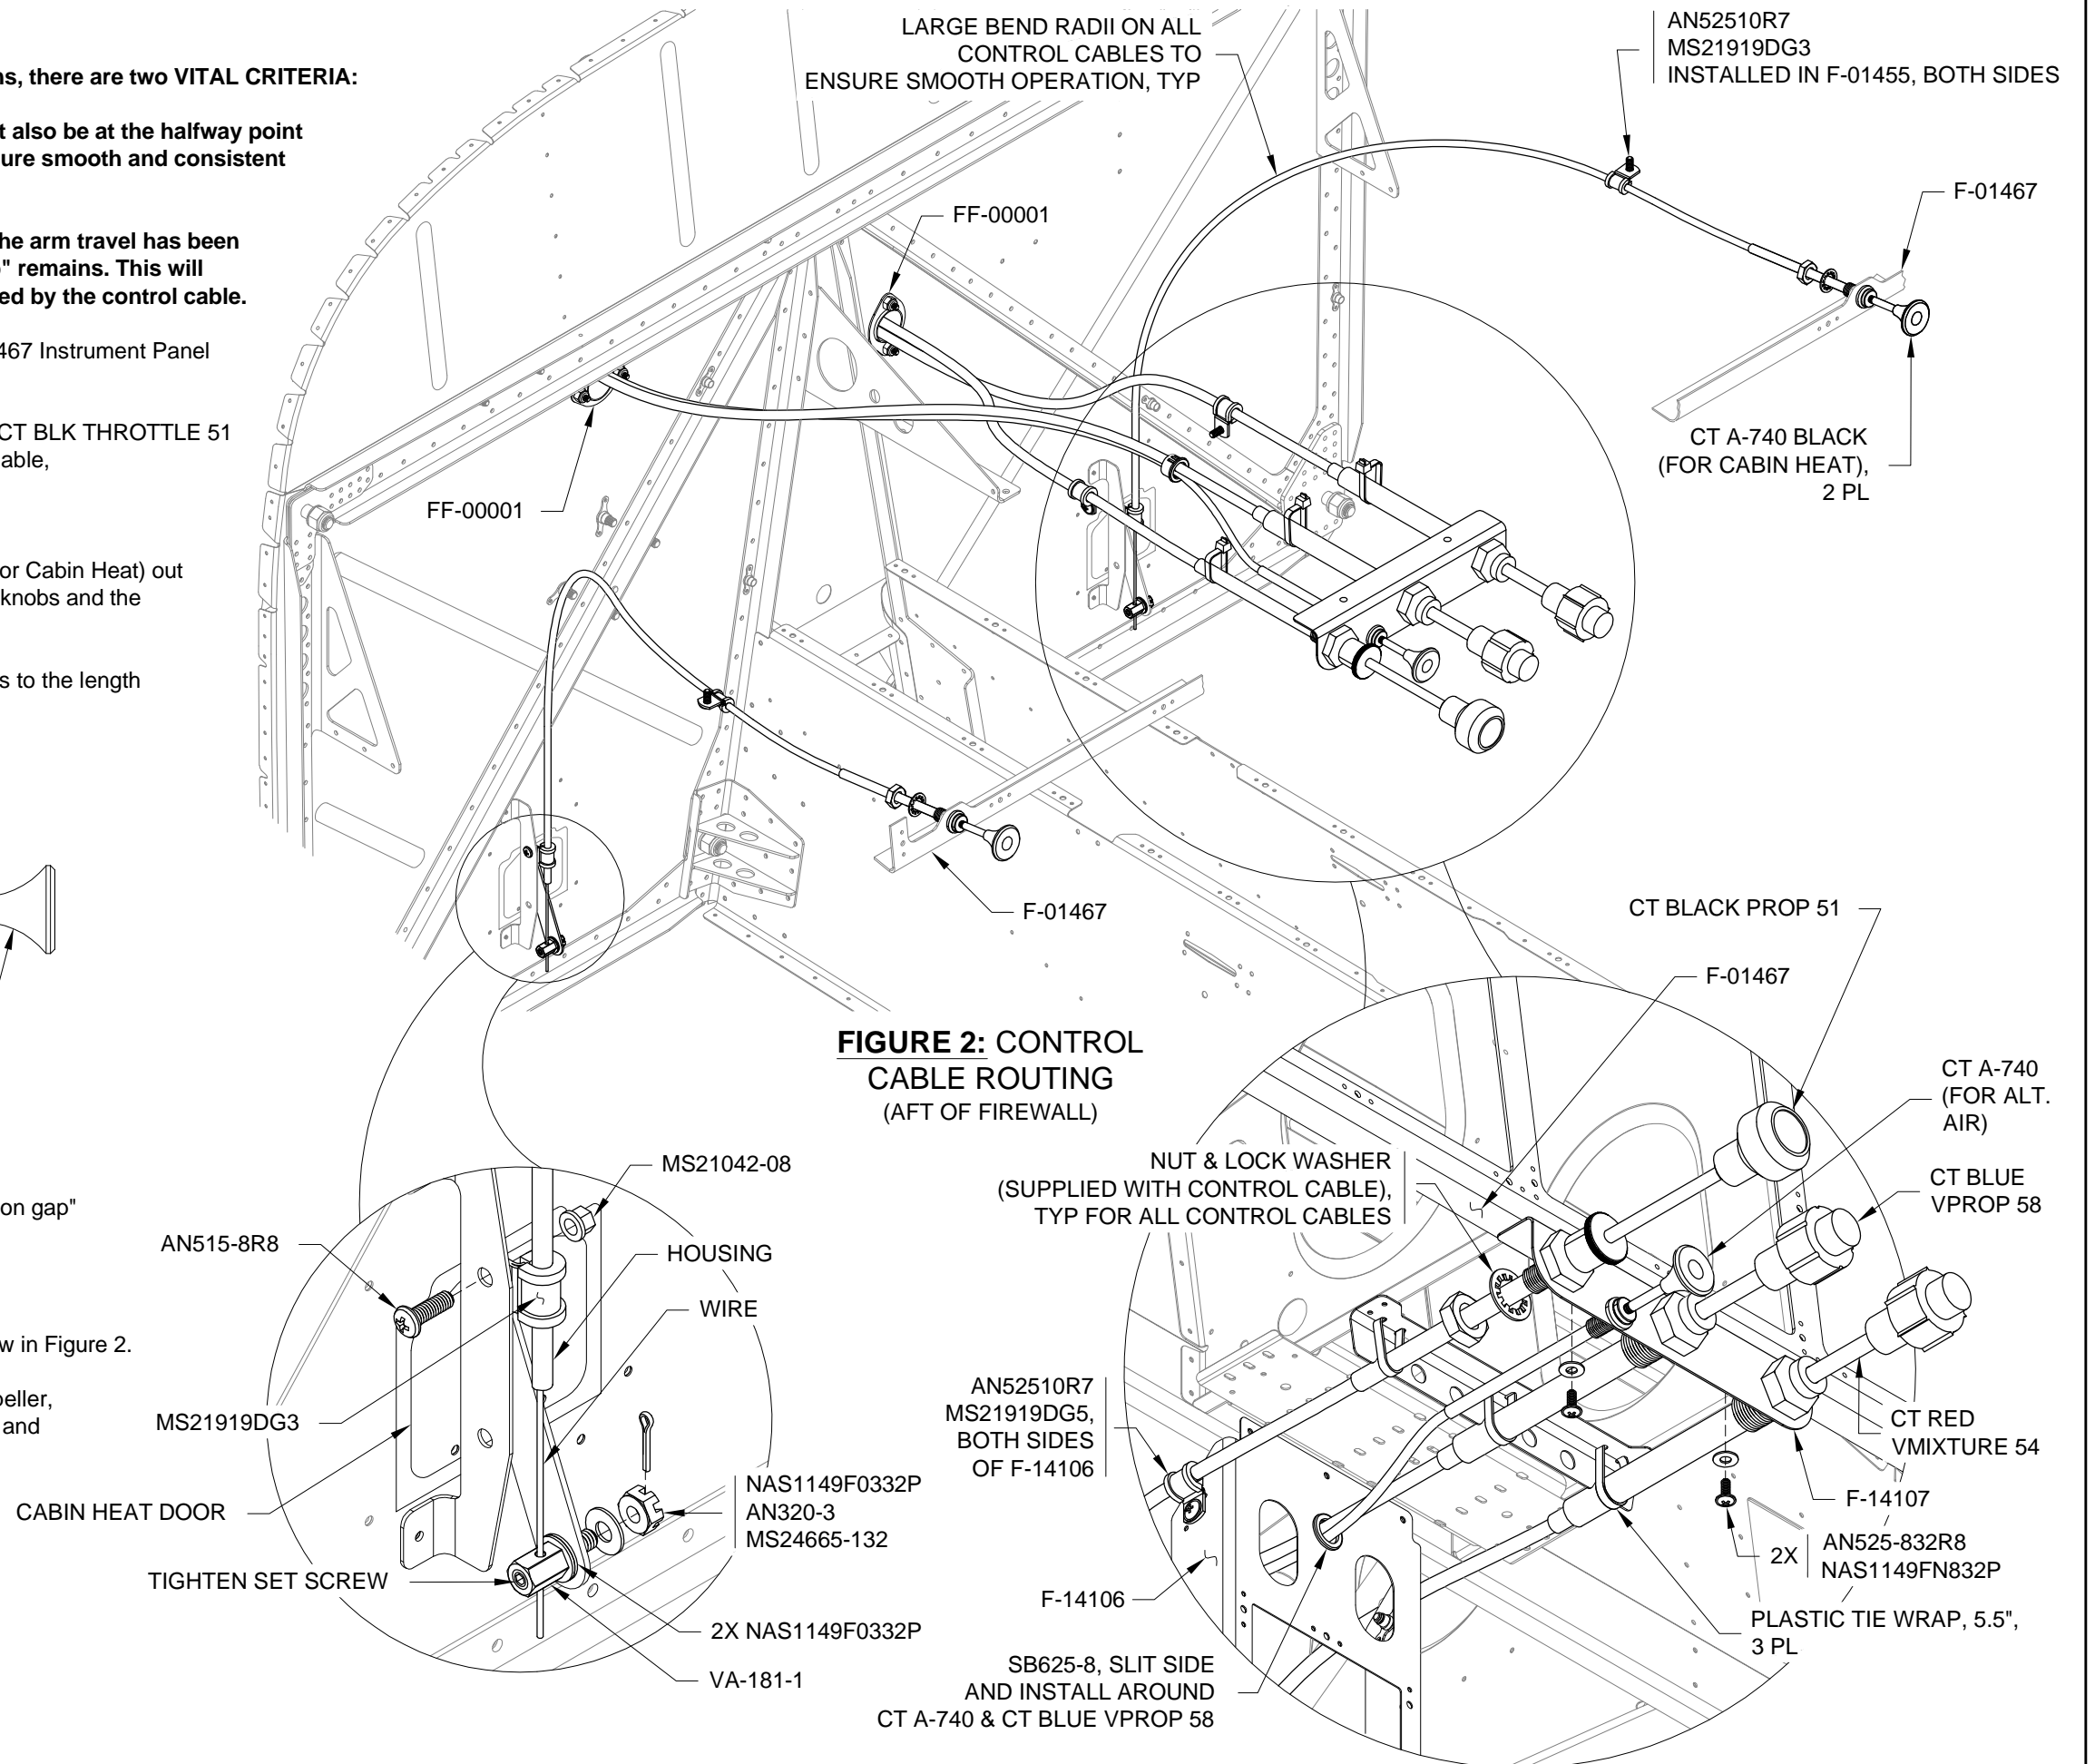

FIGURE 2: CONTROL CABLE ROUTING (AFT OF FIREWALL)
Step 7: Install the cabin heat cables as shown in the left detail view in Figure 2.
Step 1: Install the snap bushing into the CB-00017 Left Aft Baffle as shown in Figure 2.